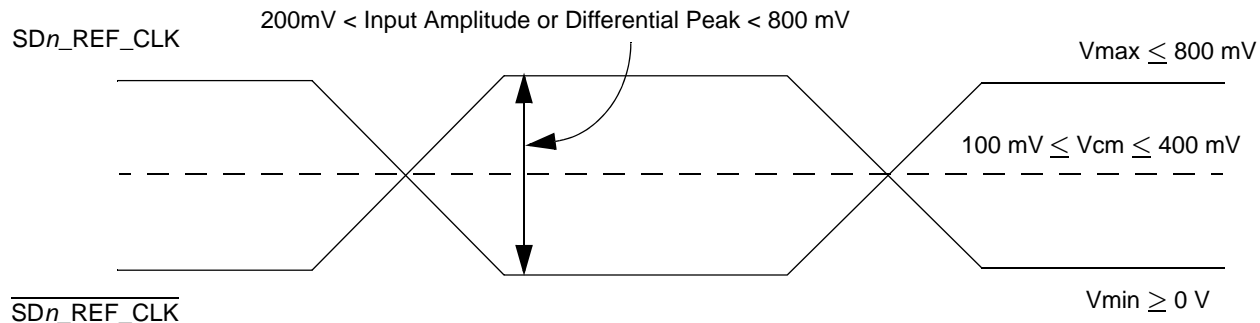

Figure 45. Differential Reference Clock Input DC Requirements (External DC-Coupled)
- For **external DC-coupled** connection, as described in Section 15.2.1, “SerDes Reference Clock Receiver Characteristics,” the maximum average current requirements sets the requirement for average voltage (common mode voltage) to be between 100 mV and 400 mV. Figure 45 shows the SerDes reference clock input requirement for DC-coupled connection scheme.